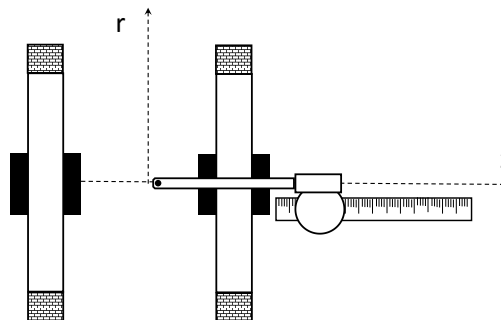

Figure 5: Measuring B_z at the center of the Helmholtz arrangement
- Align the teslameter in such a way that the teslameter axis would be coincident with the direction of z -axis. In this configuration the probe measures the B_z component (see figure 5).